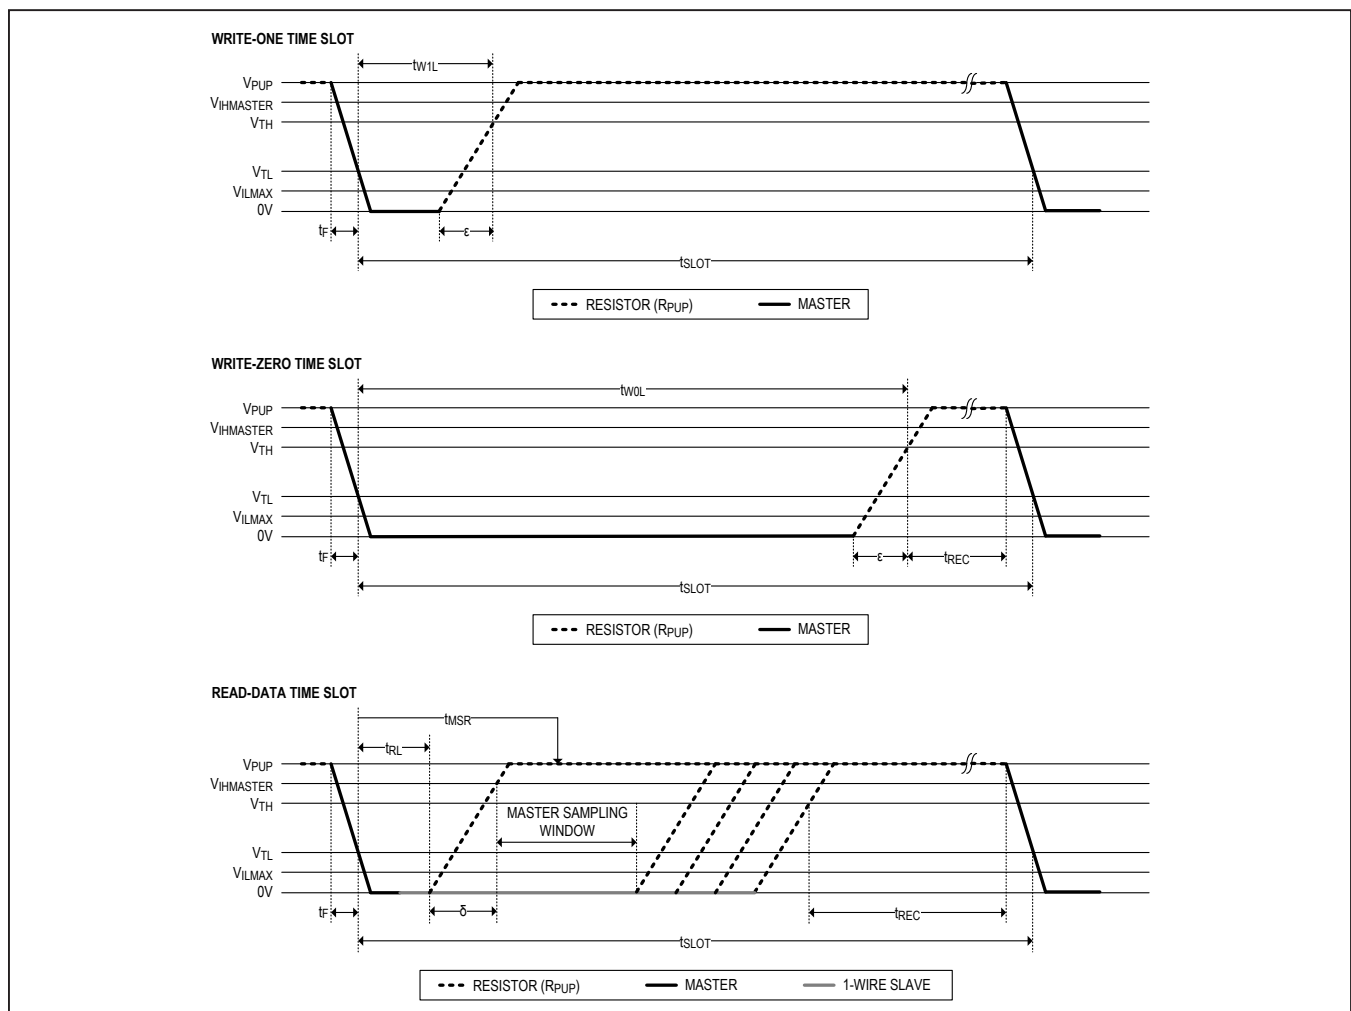

Figure 5. Read/Write Timing Diagrams
- Note 13:** System requirement.  $\epsilon$  in Figure 5 represents the time required for the pullup circuitry to pull the voltage on IO up from  $V_{\text{IL}}$  to  $V_{\text{TH}}$ . The actual maximum duration for the master to pull the line low is  $t_{\text{W1LMAX}} + t_{\text{F}} - \epsilon$  and  $t_{\text{W0LMAX}} + t_{\text{F}} - \epsilon$ , respectively.
- Note 14:** System requirement.  $\delta$  in Figure 5 represents the time required for the pullup circuitry to pull the voltage on IO up from  $V_{\text{IL}}$  to the input-high threshold of the bus master. The actual maximum duration for the master to pull the line low is  $t_{\text{RLMAX}} + t_{\text{F}}$ .
Data communication with the DS28E39 takes place in time slots that carry a single bit each. Write time slots transport data from bus master to slave. Read time slots transfer data from slave to master. Figure 5 illustrates the definitions of the write and read time slots.